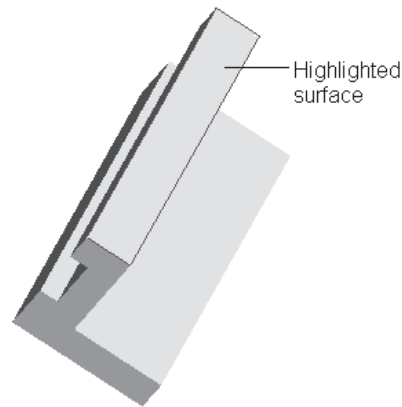

Figure 4-84 Planar surface of the base feature
6. Select **Right** from this submenu and choose the planar surface highlighted on the model shown in Figure 4-84.